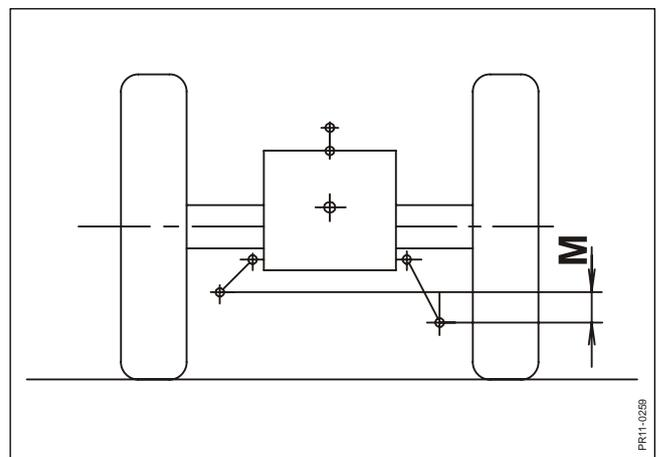

Fig. 2-12
**Fig. 2-12:** If the machine is not equipped with a lever arm with 3 holes at the left coupling point, adjust the lift arms. **Adjust the right lift arm in proportion to the left.**